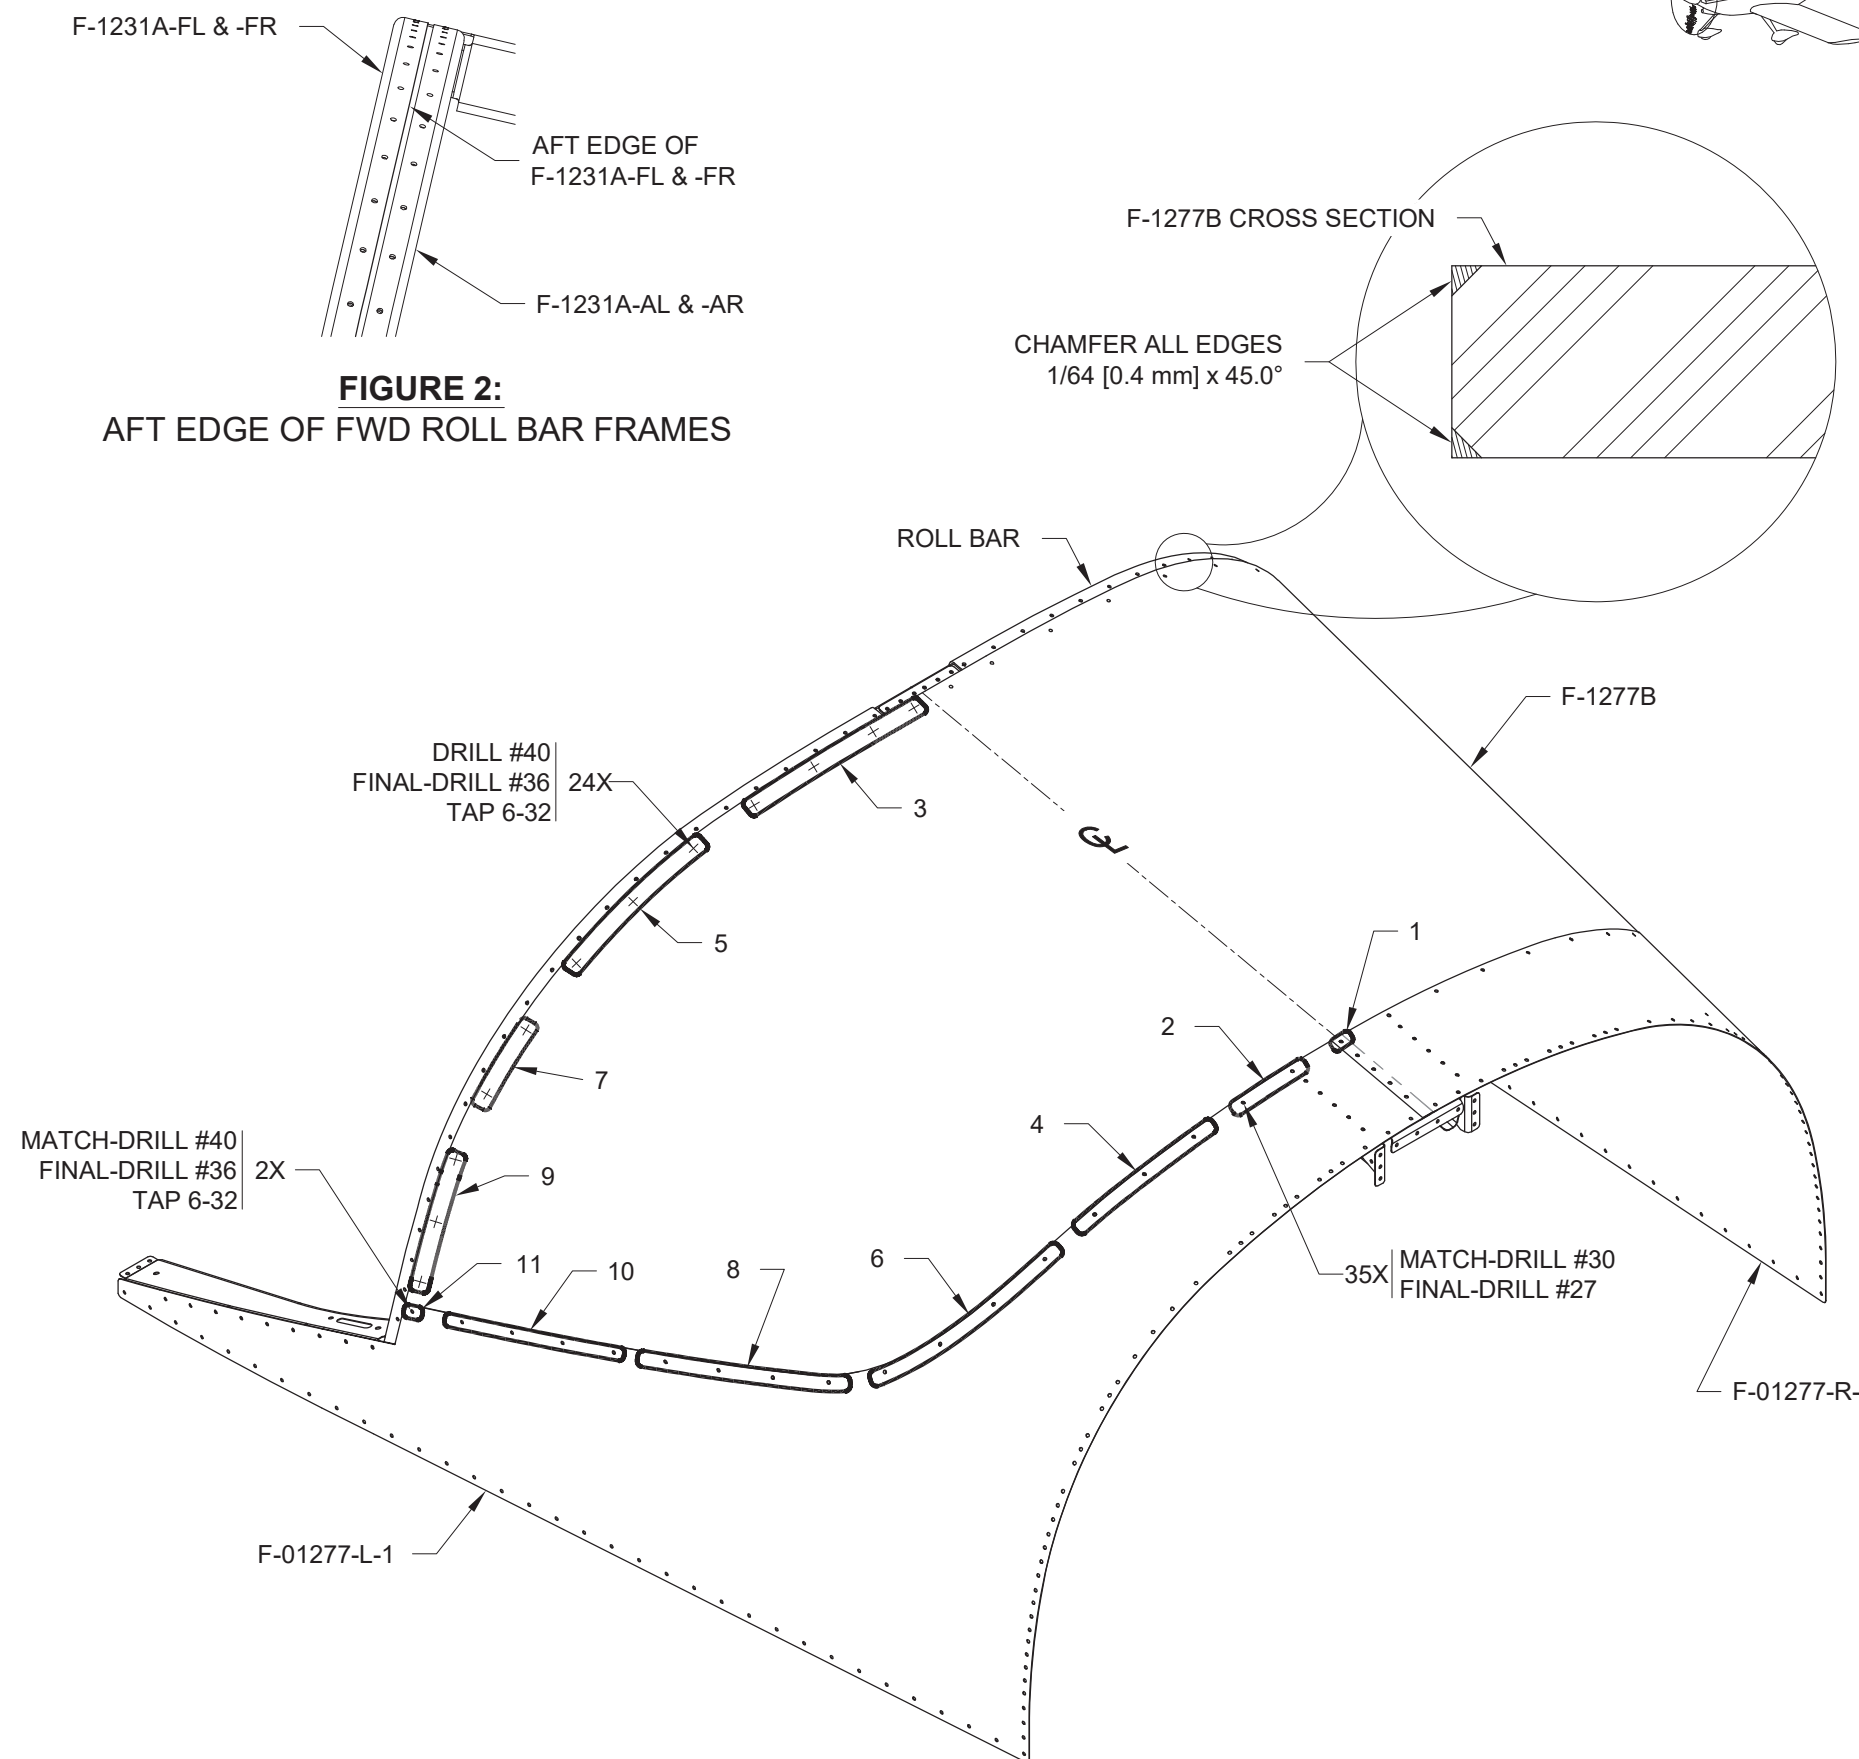

FIGURE 1: DRILLING THE WINDOW
Step 2: Apply a length of tape (masking or electrical) to the outside of the turtle deck skins with the edge of the tape aligned with the edge of the skins. Curl the tape up locally for access to each screw head; see Detail A in Figure 1.